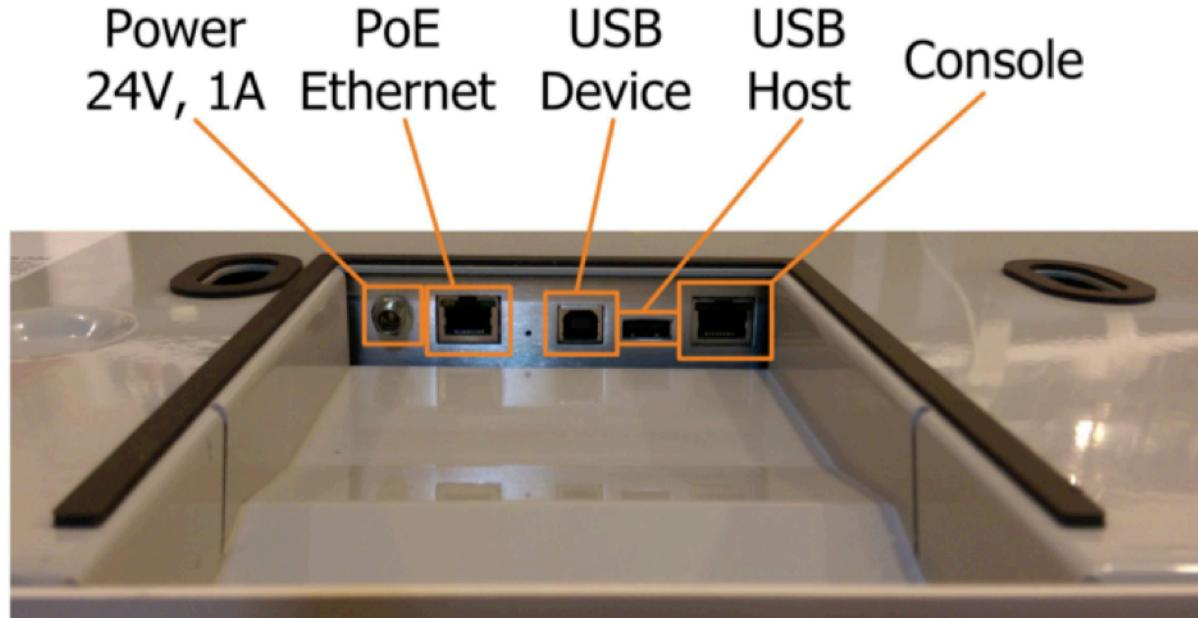

Figure 3.7 Electrical and Network Connections
- In this hanging position, the Ethernet and +24V power (if used instead of POE) cables can be attached as shown in figure 3.7.